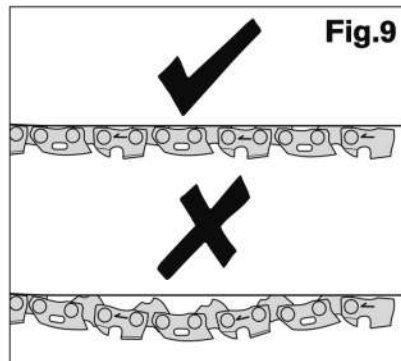

Fig.9
3. To adjust the saw chain tension, rotate the chain tensioning wheel. Rotating the wheel upwards increases the tension while rotating it downwards decreases tension. A properly tensioned chain should have no sag and should only be able to be pulled 1/8 inch (3 mm) away from the guide bar of the saw.(**Fig.9**)